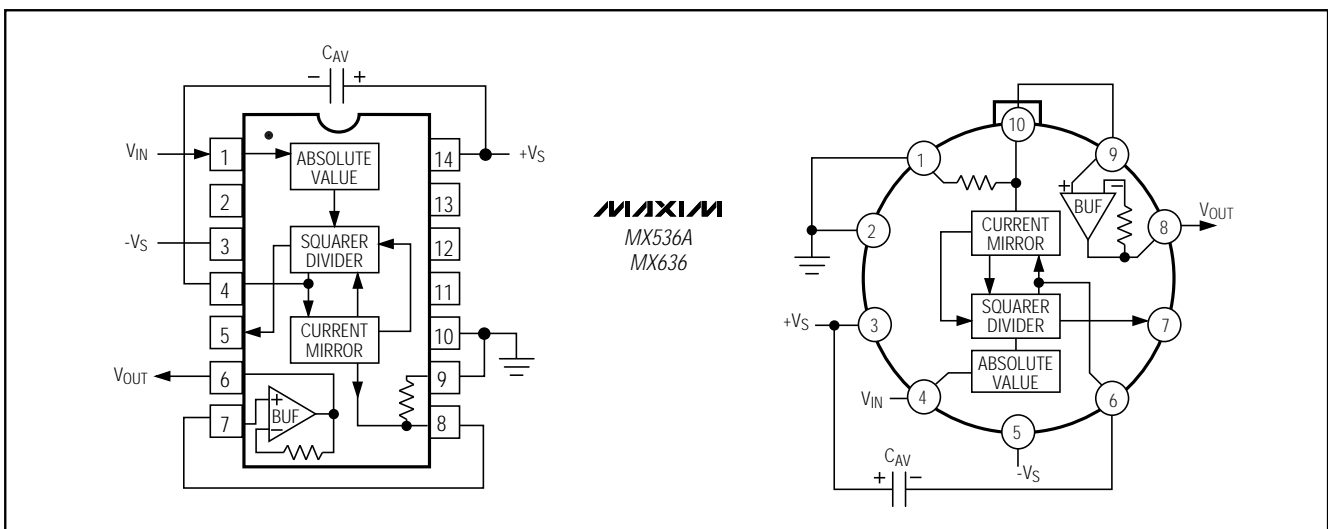

Figure 2. MX536A/MX636 Standard RMS Connection
- Note 1:** Accuracy is specified for 0 to 7V_{RMS}, DC or 1kHz sine-wave input with the MX536A connected as in Figure 2.
Standard Connection (Figure 2)